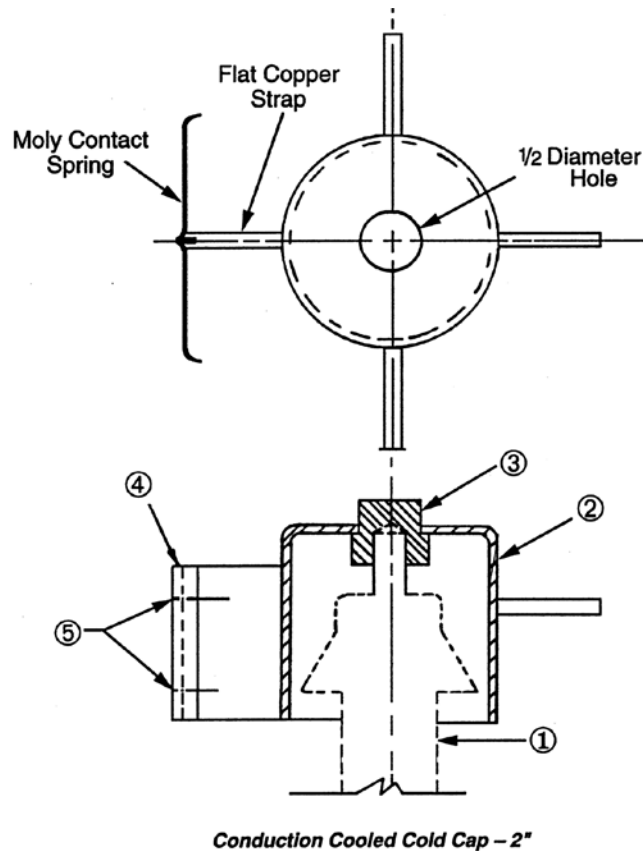
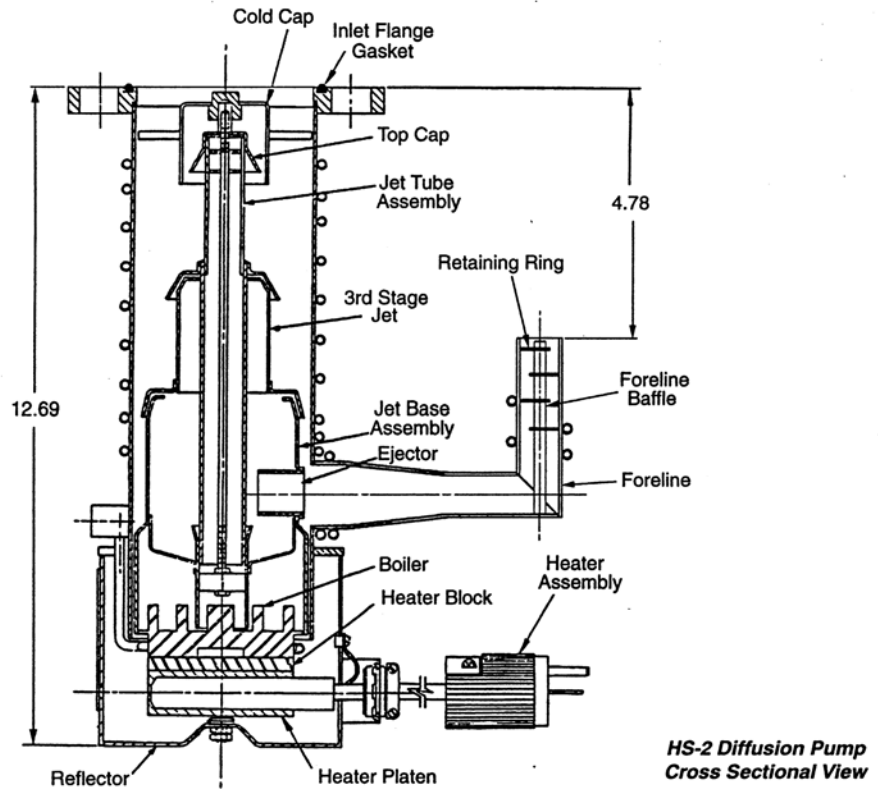

Figure 3 Cold Cap Installation
Figure 5 HS-2 Cross Section
Figure 3 shows the cold cap correctly mounted on the top jet. Refer to Figure 5 and Figure-6 during installation. To install the cold cap:
- 3** Install the cold cap (Item 2) as shown in Figure 3, ensuring that it is resting firmly on the shoulder of the PTFE button: